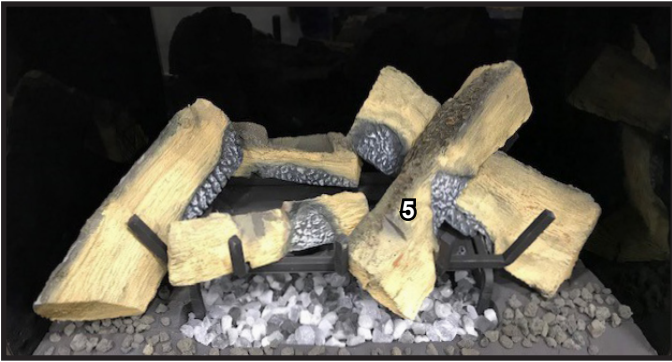

Figure 32 Log #5 Installed
32. Reinstall Log #5. See Figure 32.